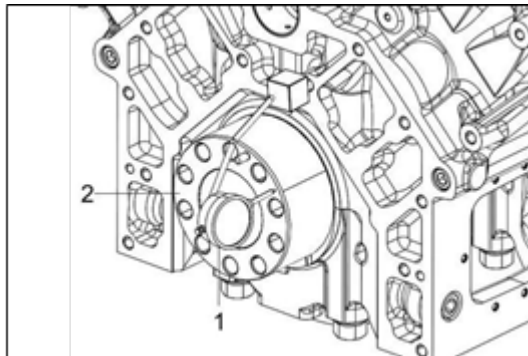

Figure 113.
METHOD A: Install a dial gauge (Figure 113, item 1) on the cylinder block. Move the crankshaft (Figure 113, item 2) front to rear to measure the end play. Record the measurement.